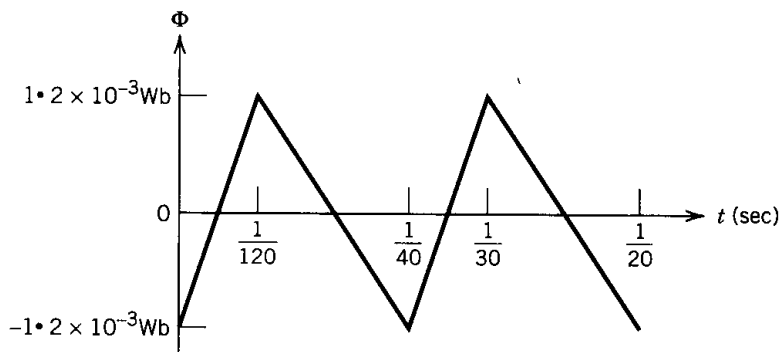

FIGURE P1.21
- 1.21 The flux in the core of the magnetic system of Fig. 1.17 varies with time as shown in Fig. P1.21. The coil has 400 turns. Sketch the waveform of the induced voltage, e , in the coil.